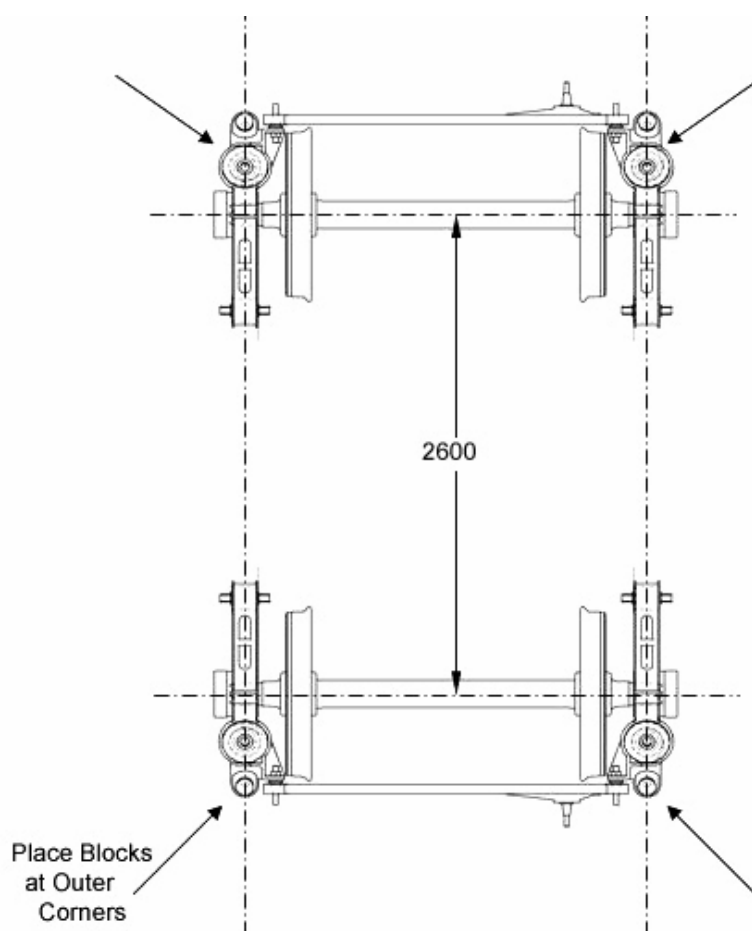

Figure 21.1: Positioning of Wheelset Assemblies for Fitment onto Bogie
- 21.1 Position the wheelsets on "straight and level track" with the axle centres 2600mm apart and the axleboxes supported on blocks so that the axle centre and pivot bush centre are approximately level (see Figure 21.1). Record bogie build details on the Bogie Assembly Record Sheet (see page 48).